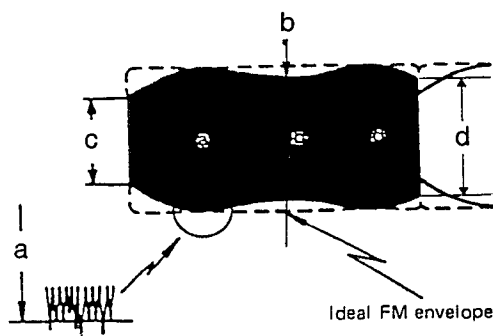
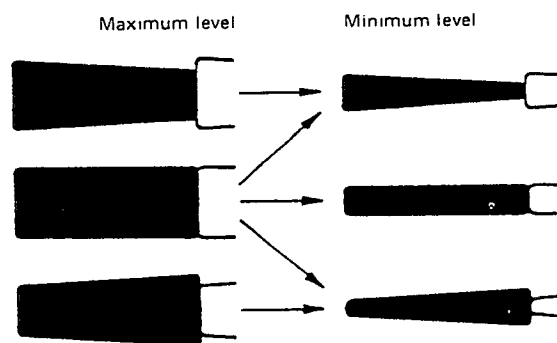

Fig. 28 FM waveform (max. output)
Fig. 29 Normal waveform examples
4. Refer to Fig. 28. Read the level of portion (a) of the wave form. If the waveform is serrated at point (a), read the value at the most uniform serrations as shown at left in Fig. 29.
The waveform variation should be nearly parallel as shown in Fig. 29.